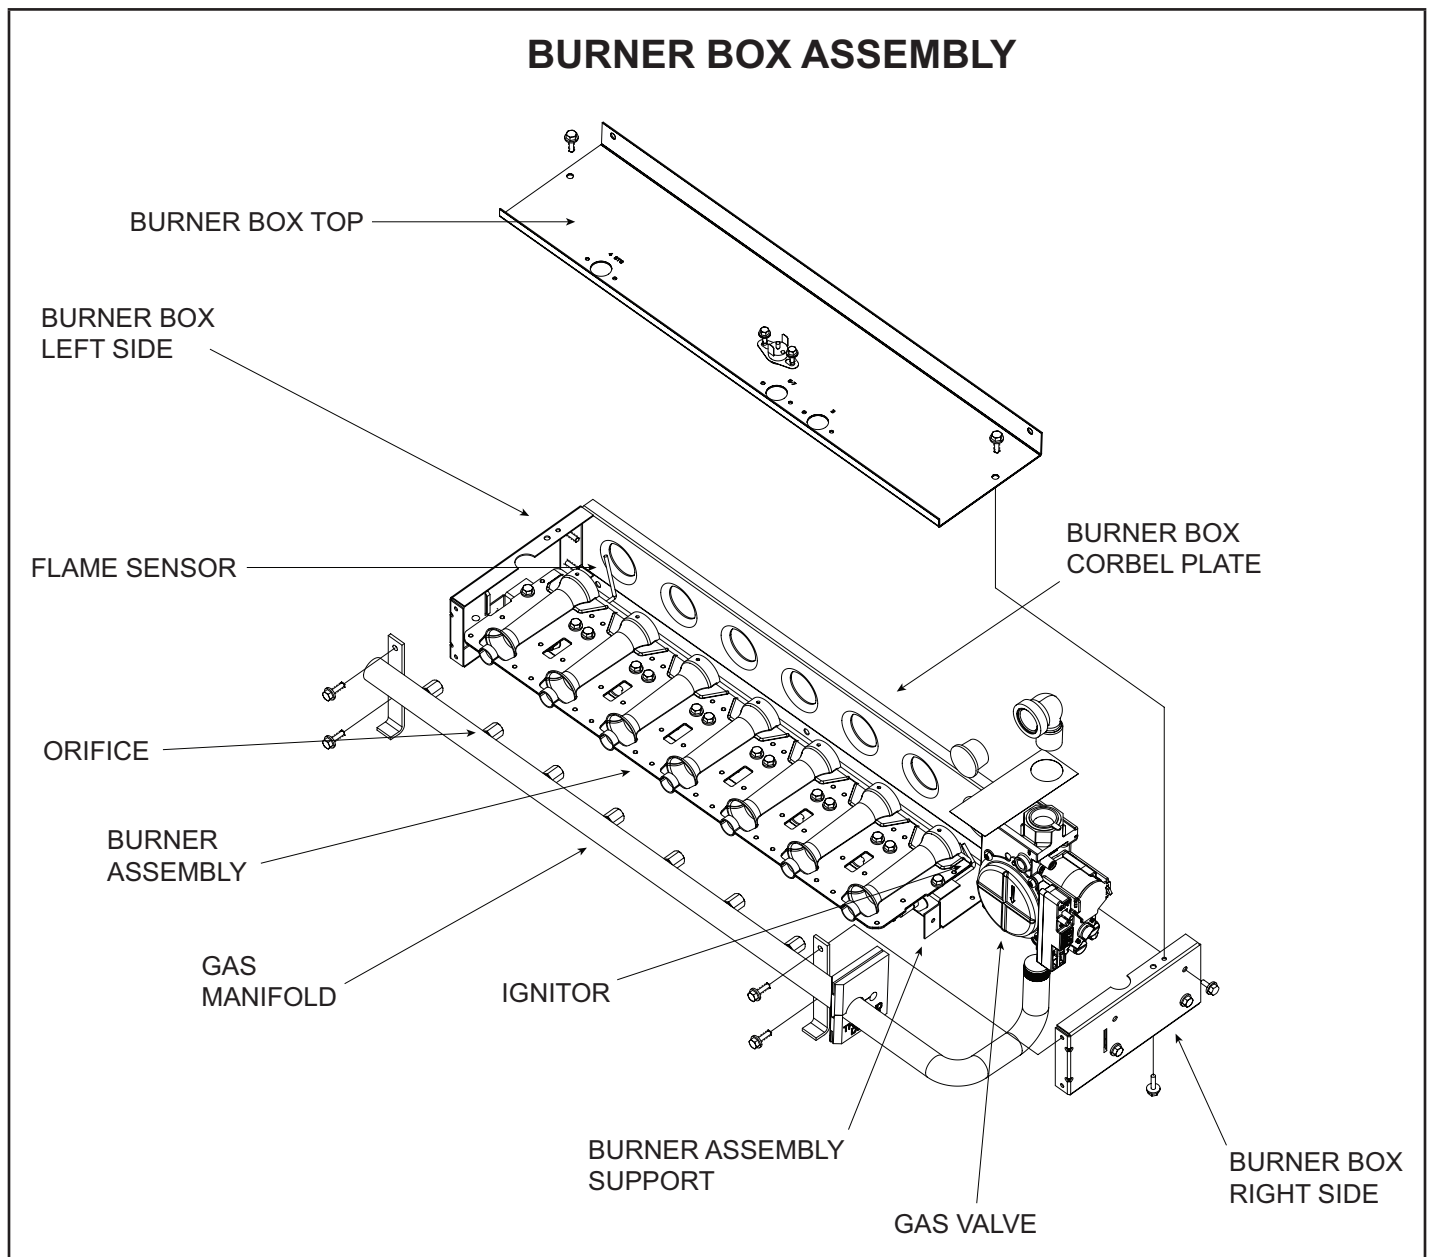
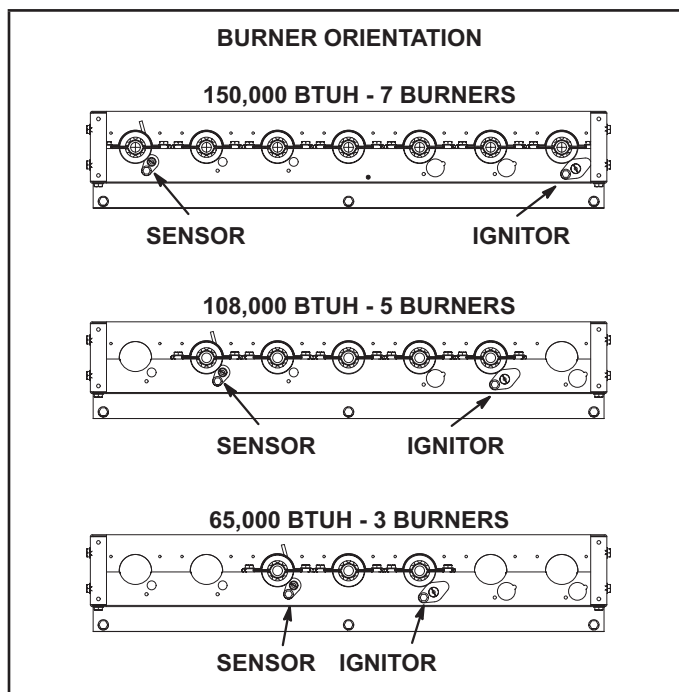
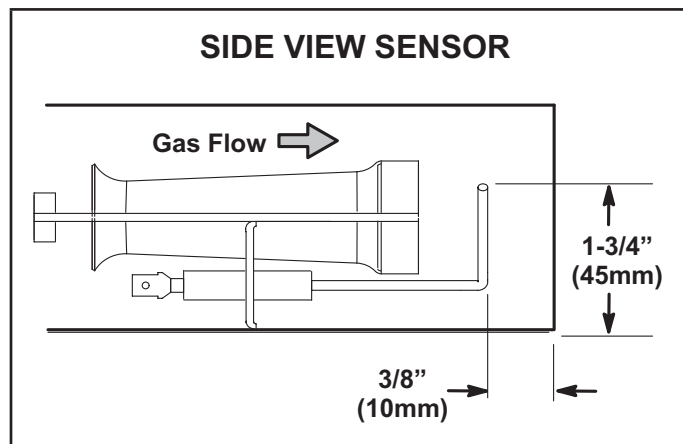

Figure 16
Figure 17
Figure 24
4. Burner Box Assembly (Figure 16)
The 3, 5, or 7 burners are made into a single assembly and can only be removed as a single assembly from the burner box. Burner maintenance and service is detailed in the SERVICE CHECKS section of this manual. See Figure 16 for burner removal. See Figure 17 for number of burners.
For each burner assembly, the unit has a corresponding manifold assembly. The manifold assembly is a formed, painted, 1/2" diameter, black iron pipe with 3, 5, or 7 brass orifices installed. The manifold assembly secures to the burner box (See Figure 16) using sheet metal screws. A manifold is correctly installed when the each orifice falls inside the small inlet ring at each burner's inlet.
The flame sensor electrode is mounted through a hole in the burner support, electrode tip protrudes into the flame envelope of the appropriate burner, and the electrode assembly is secured with a screw to burner support. The electrode assembly can be removed for service without removing any part of the burners. Figure 17 shows the burner support mounting location by heater size. A side view of the FS electrode can be seen in Figure 24. The FS electrode is designed so the tips are at least 1/2" (12.7 mm) inside the flame envelope. FS electrode is not field adjustable. Do not bend or alter the electrode as this may create a hazardous condition that can cause property damage or personal injury.